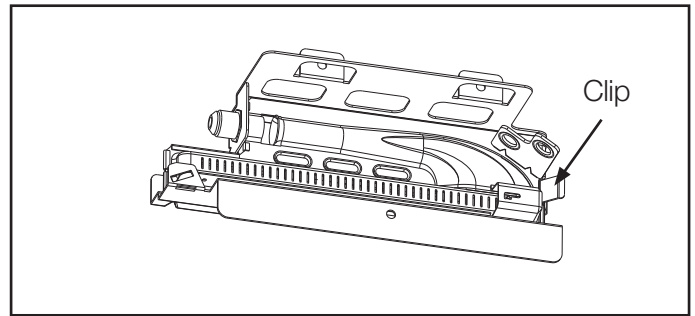

Figure 8
2. Pull the retaining clip to the left to release the oven burner from its cradle as shown in figure 8.